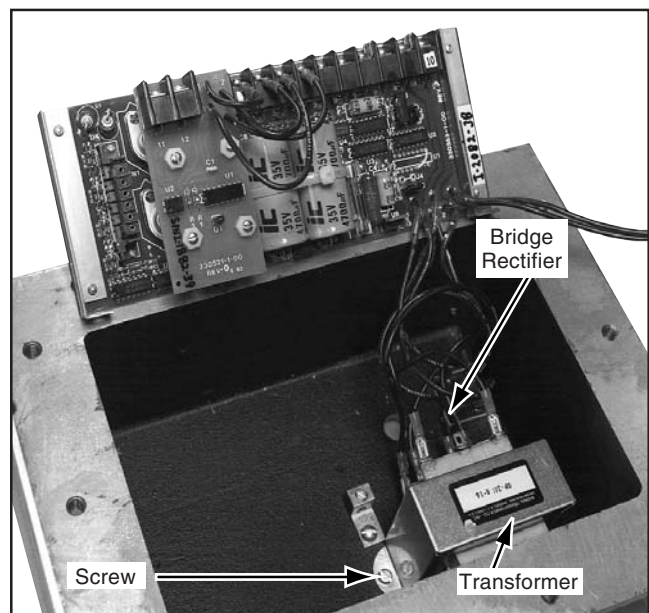

Figure 6 — Transformer Removal
4. Remove the screw securing the bridge rectifier (Figure 6).
5. Remove the two screws securing the transformer (Figure 6) to the housing floor.
3. Refer to Figure 6 and carefully connect the wires from the ETP Board to the bridge rectifier and transformer.
1. Remove the crank arm by removing the screw in the crank arm body (Figure 6).
2. Remove the top cover by removing the four slotted head screws located in the front and in the rear of the unit (Figure 6).